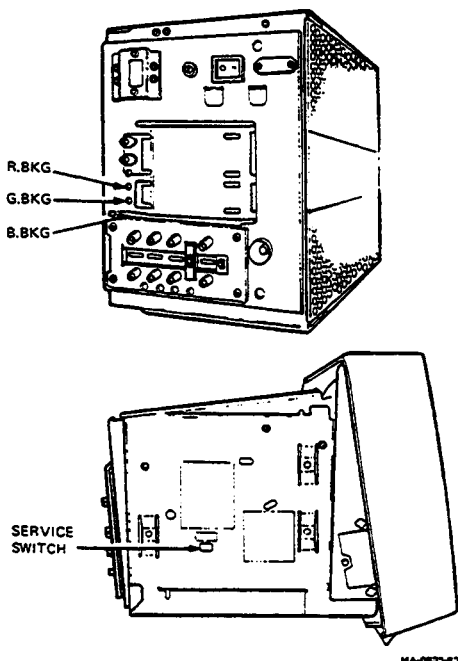

Figure 4-17 Cutoff Adjustment
4.3.14.2 White Balance Cutoff – Adjust the white balance cutoff as follows. See Figure 4-17.